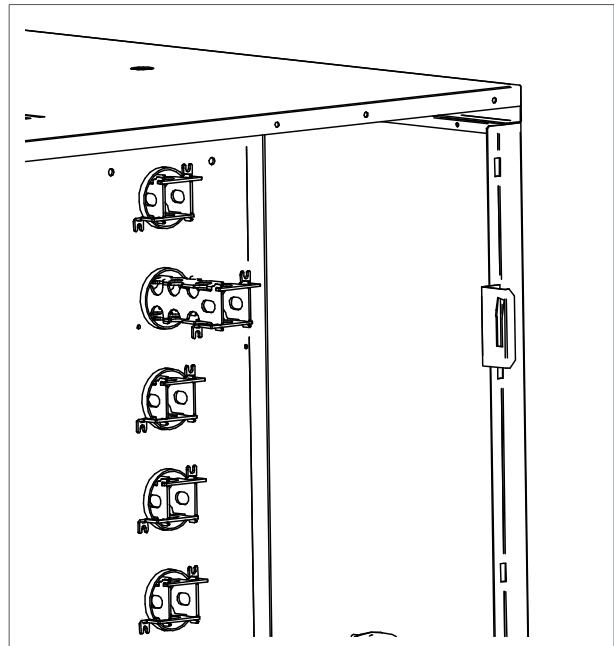

Figure 24 - Flame inserts in the burner tube.
- Clean the flame inserts or replace them when they are deformed (figure 24).